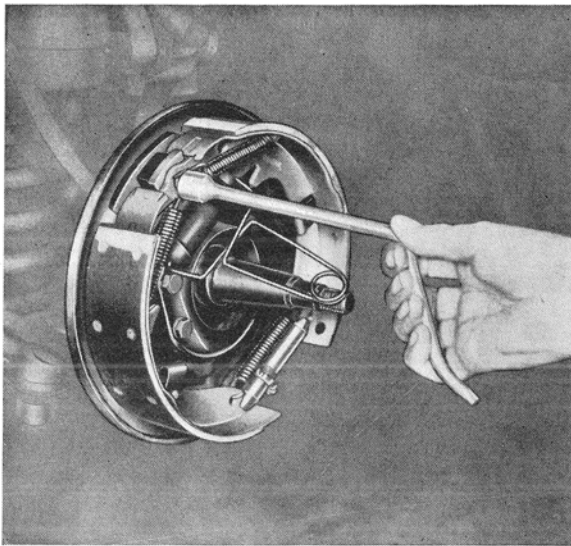
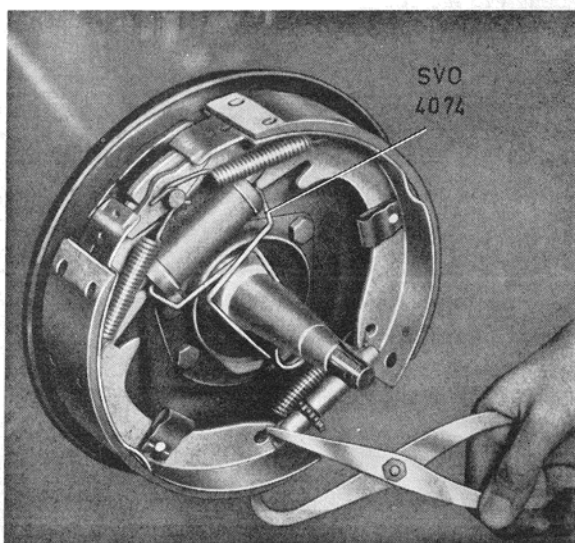
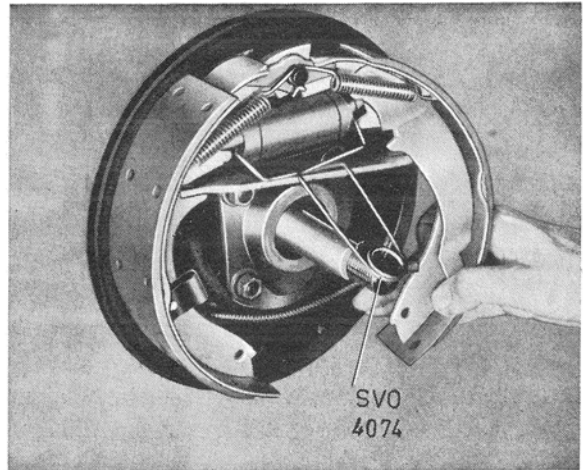

Fig. 11. Removing the return spring with brake spring tool (Snap-on BT 11 or corresponding)
Fig. 12. Removing the locking spring
Fig. 13. Removing the brake shoe
3. Place the clamp SVO 4074 as shown in Fig. 12 so that the plungers in the wheel unit cylinder cannot be pressed out. How the brake shoes are removed will depend upon the tool used. With a brake spring tool, see Fig. 11, disconnect first the two return springs, then remove the locking clips and lift the shoes forward together with the adjusting device.
Disconnect the locking spring with the help of the brake spring pliers as shown in Fig. 12. Pull the shoes apart and remove the adjusting device. Hold against the guide pin on the rear side of the brake backing plate and remove the locking clip. Turn the shoe outwards until the thrust rod from the wheel unit cylinder is released, see Fig. 13. Then turn the shoe inwards until the return spring can be released and the shoe lifted off. Remove the other shoe in the same way.
3. Place the clamp SVO 4074 over the wheel unit cylinder so that the plungers cannot be pressed out. Disconnect the handbrake cable from the lever. How the brake shoes are removed will depend upon the tool used. With a brake spring tool, see Fig. 11, disconnect first the two return springs, then remove the locking clips and lift the shoes forward together with the adjusting device.
With the help of brake spring pliers unhook the locking spring, see Fig. 12. Pull the shoes apart and remove the adjusting device. Hold against the guide pin on the rear side of the
brake backing plate and remove the locking clip for the rear shoe. Turn the shoe outwards until the thrust rod from the wheel unit cylinder and the handbrake link are released, see Fig. 13. Then turn the shoe inwards until the return spring can be disconnected and the shoe lifted off. Remove the other shoe in the same way.